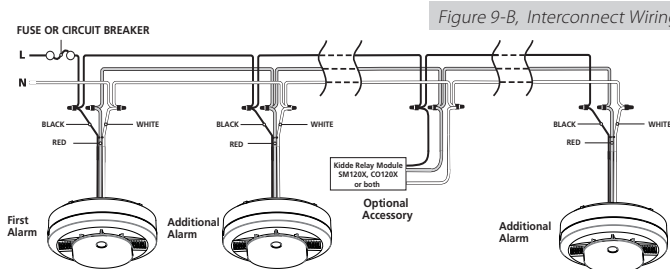

Figure 9-B, Interconnect Wiring Diagram
- Figure 9-B illustrates interconnection wiring. Improper connection will result in damage to the alarm, failure